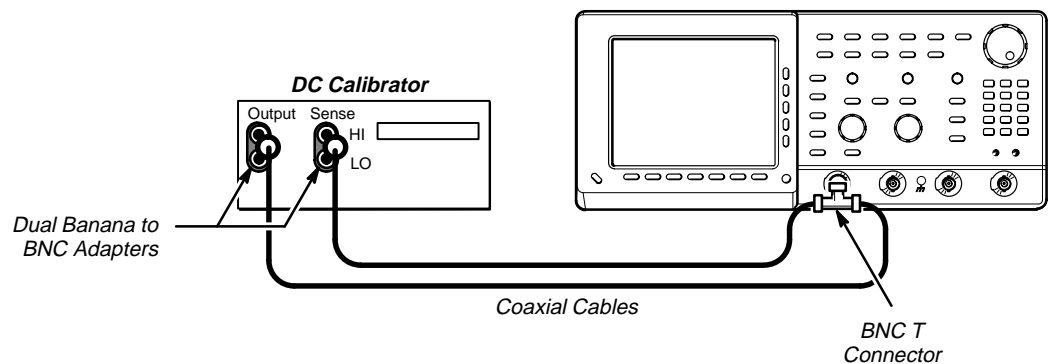

**Figure 1-23: Measurement of Probe Compensator Frequency**
- b. *Check against limits:* CHECK that the **CH 1 Freq** readout is within 950 Hz to 1.050 kHz, inclusive. See Figure 1-23.